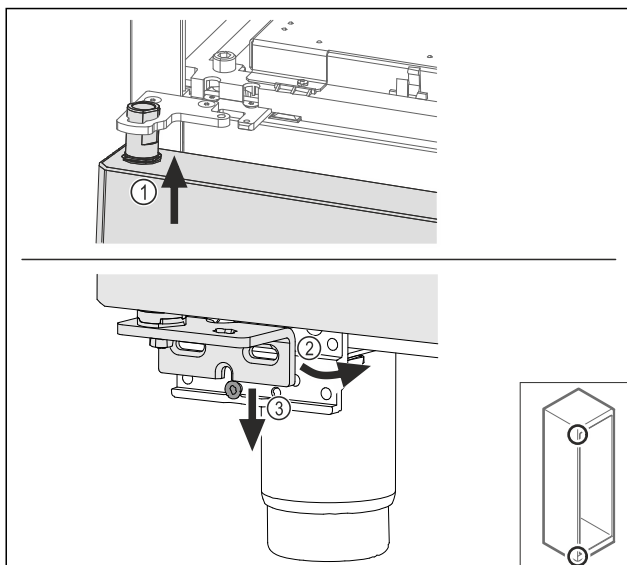

Fig. 64
- Insert the door slightly tilted at the top Fig. 64 (1), align the door straight Fig. 64 (2) and place it on the bottom of the swap bearing block screw Fig. 64 (3).